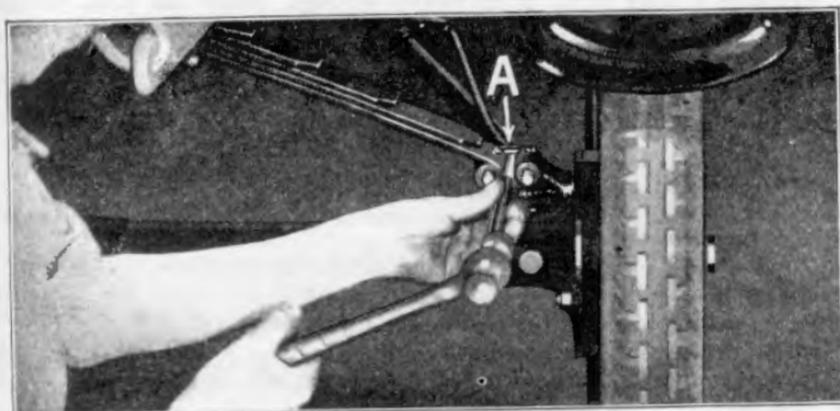

Fig. 365
- 659 Run off the four nuts "B" on ends of spring hangers lifting off the spring hanger bars "C" and drive the hangers out of spring and perches as shown at "A" Fig. 365.